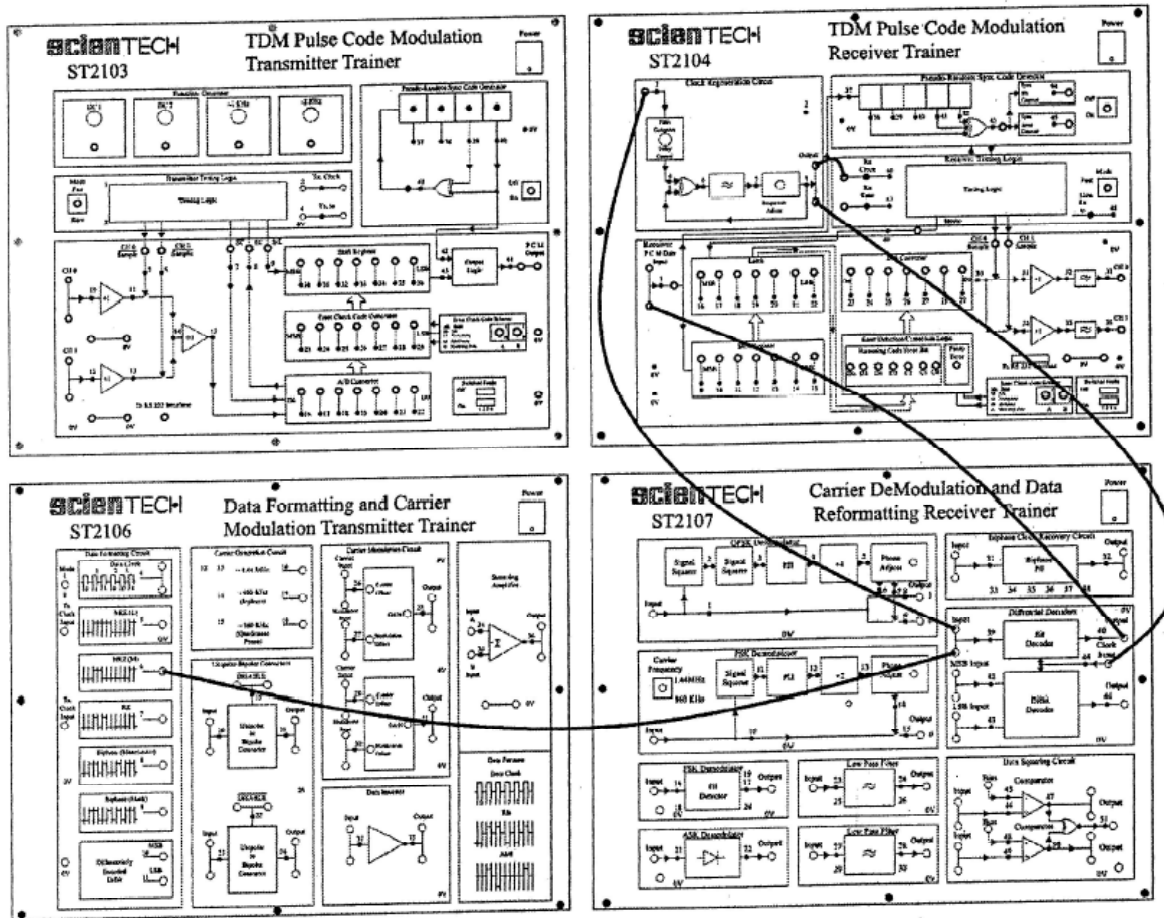

Figure 4
2. Switch off the instruments. Make the following additional connections as shown in figure 4.